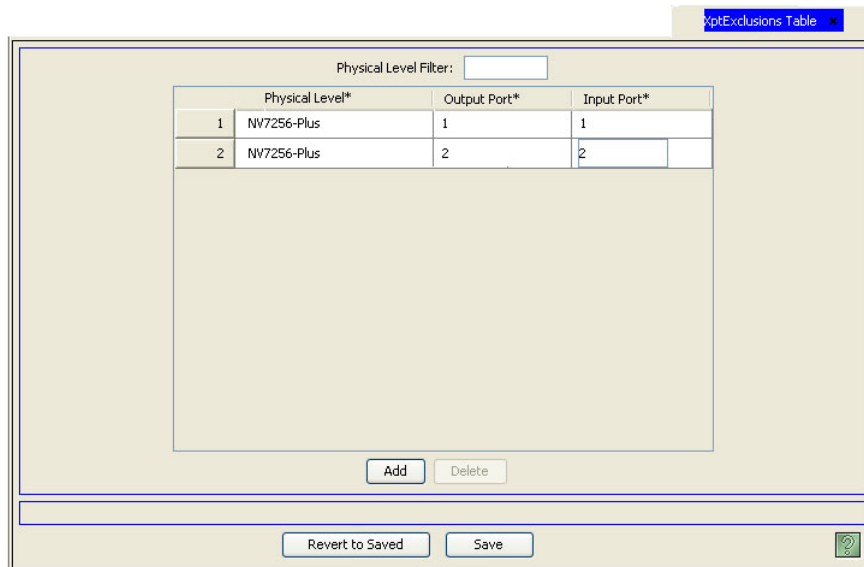

Figure 7-33. XPTE Exclusions Table
- 1 From the Navigation area, select the 'Views' pane and then 'XPTE exclusions'. The 'XPTE exclusions' table displays, as shown in Figure 7-33.